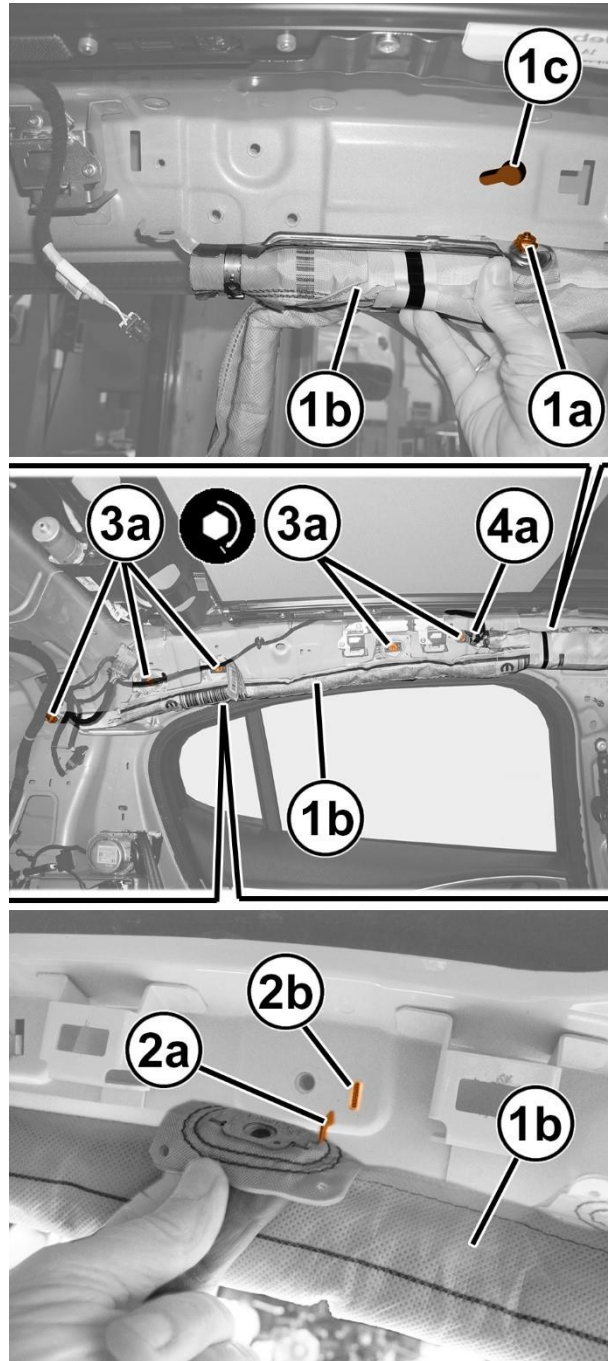

Figure 27 – Side Curtain Air Bag
2. Engage the retainer (1a) for the side curtain air bag module (1b) in its housing (1c) on the vehicle (Figure 27).
3. Install the side curtain air bag module (1b) and engage all its retainers (2a) to their housings (2b) on the vehicle, both rear and front (Figure 27).
4. Install the screws (3a) at the rear part of the side curtain air bag module then tighten them to 9 N·m (80 in. lbs.) (Figure 27).
5. Connect the electrical connection (4a) to the side curtain air bag module (1b) (Figure 27).